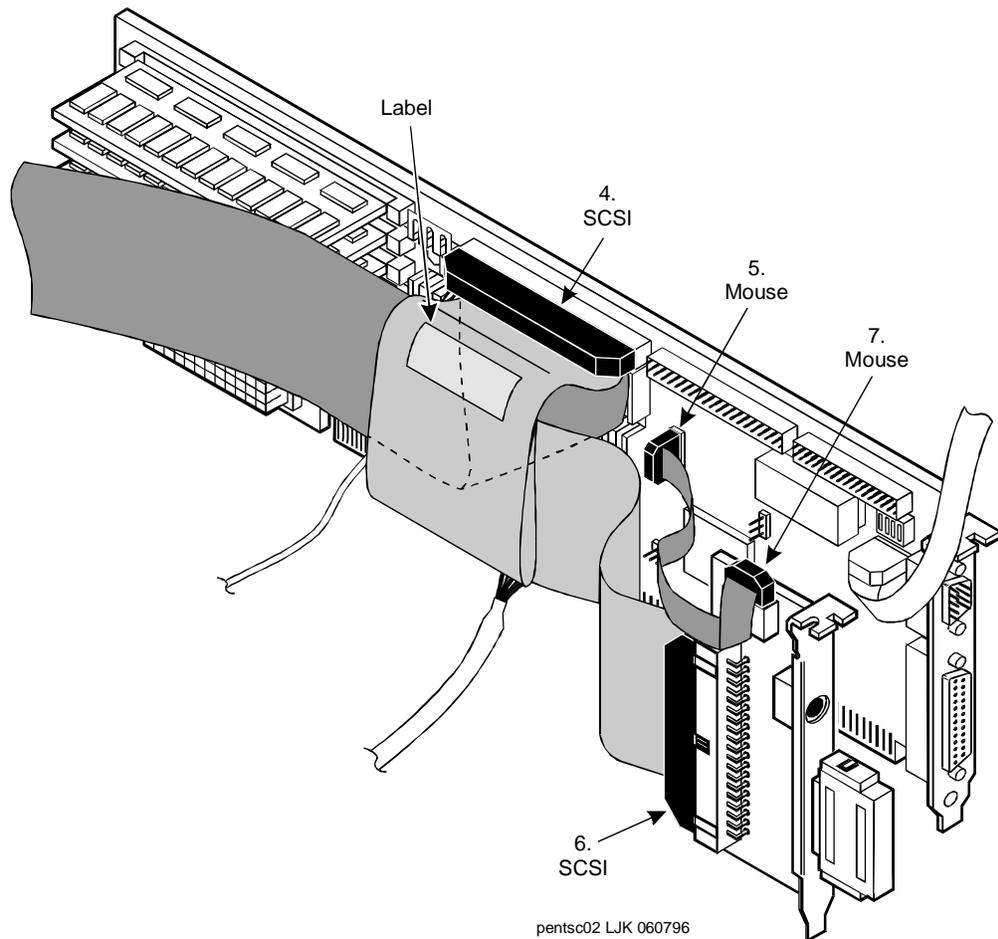

Figure 5-21. Attaching Cables to the P575/CPU Circuit Card - Part 2
10. Attach the SCSI cable to the SCSI controller pins on the P575/CPU circuit card (Figure 5-21).
The SCSI cable has a label which contains the following message (Figure 5-21):
The SCSI cable will be routed over top of the disk activity cable (Figure 5-21).
11. Attach the mouse cable to the P575/CPU circuit card (Figure 5-21).
12. Attach the SCSI cable to the external SCSI connector circuit card (Figure 5-21).